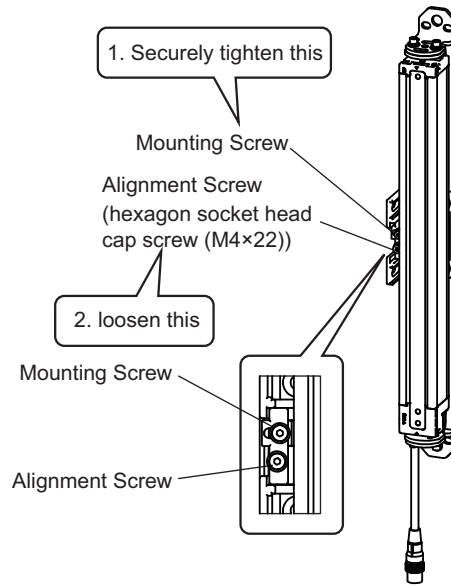

Fig. 6
- Securely tighten the Mounting Screw to fix the Intermediate Bracket to the F3SG-RR housing. The recommended torque to tighten the Mounting Screw is 3.0 N·m. Then loosen the Alignment Screw (hexagon socket head cap screw (M4×22)) of the Intermediate Bracket. (Fig. 6)